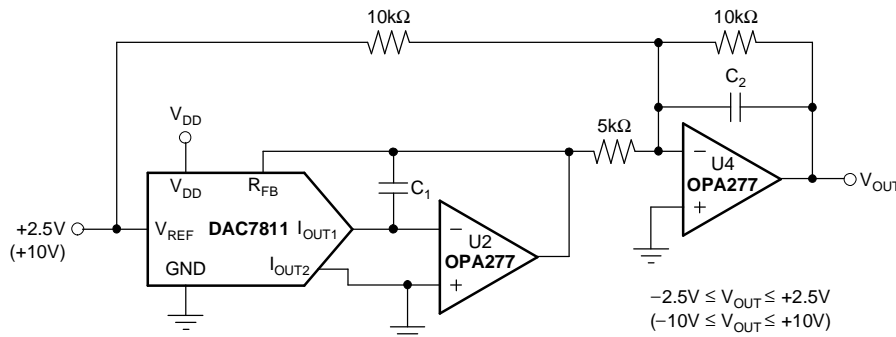

Figure 31. Bipolar Output Circuit
Some applications require full 4-quadrant multiplying capabilities or bipolar output swing. As shown in Figure 31, external op amp U4 is added as a summing amp and has a gain of 2X that widens the output span to 5 V. A 4-quadrant multiplying circuit is implemented by using a 2.5 V offset of the reference voltage to bias U4. According to the circuit transfer equation given in Equation 2, input data (D) from code 0 to full-scale produces output voltages of $V_{OUT} = -2.5$ V to $V_{OUT} = +2.5$ V.
External resistance mismatching is the significant error in Figure 31.